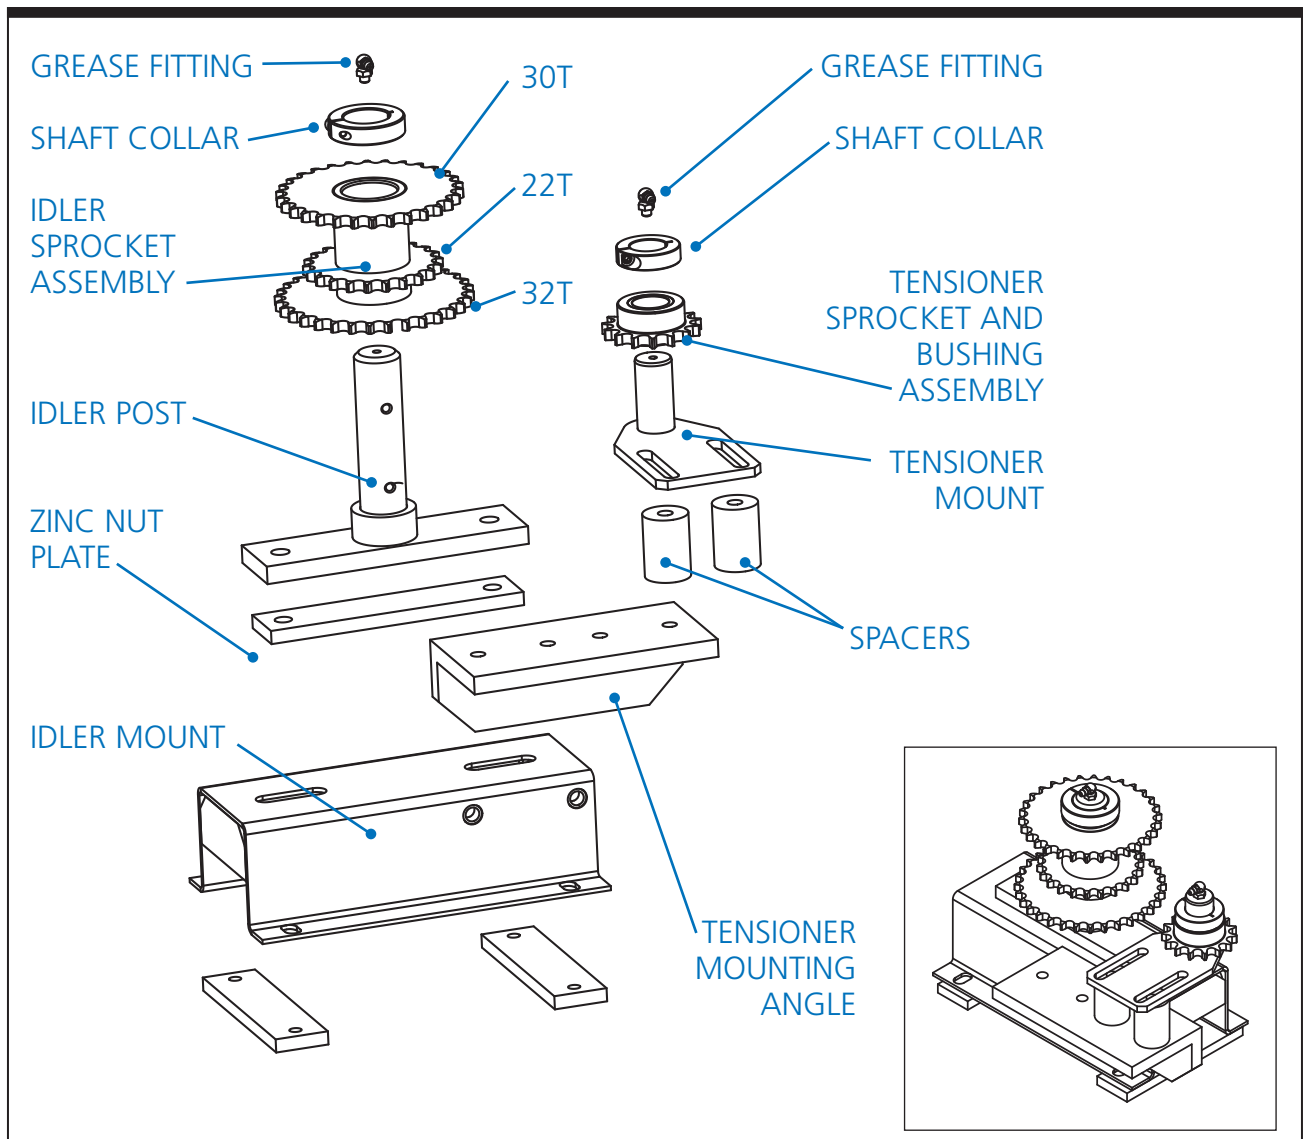

Figure 4-1. Idler Assembly - Exploded and Assembled - FS-30
- ➔ If adjustment is needed, adjust the disc drive chain first. Loosen the idler assembly (see Figure 4-1), move the chain forward or back as necessary, and then retighten.
It is recommended that you grease the idler assembly every six (6) months after installation. If you must disassemble the idler, please refer to the order of assembly in Figure 4-1.